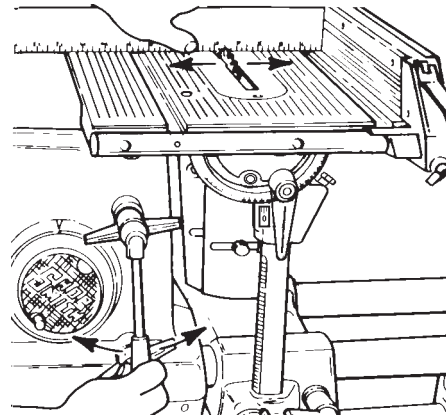

Figure D-6
1. Mount the rip fence to the worktable. Move the fence the desired distance away from the saw blade, then lock it. Use the quill feed to make fine adjustments. See Figure D-6.